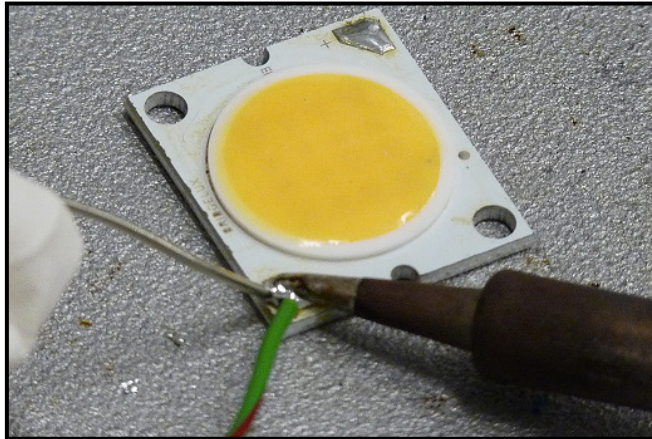

Figure 9: Soldering a pre-tinned wire to a pre-tinned solder pad
- D. Place the hot tip of the soldering iron on top of the wire tip. Bring the solder wire to the area just below the solder tip (see Figure 9). Only a small amount of solder is necessary to form a joint. After the solder melts and while holding the wire in place, quickly remove the soldering iron to prevent the formation of icicles. Signs of an overheated solder joint include solder spike formations and burnt flux residue. If these signs are observed, consider reducing the solder time or the soldering iron temperature. The process of soldering wires to the LED Array should take just a few seconds. The maximum time that the soldering tip should contact the LED Array solder pad and wire is 3.5 seconds.